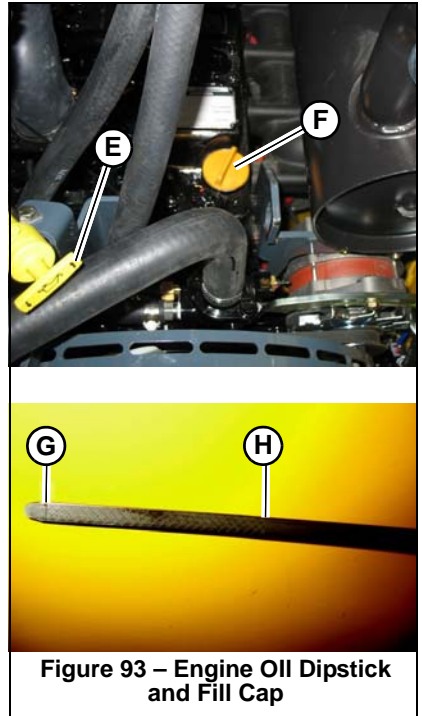

Figure 93 – Engine Oil Dipstick and Fill Cap
5. Twist engine oil dipstick (E, Figure 93) counterclockwise to unlatch it. Remove the dipstick from the engine.
7. Remove the dipstick again. The oil level should be within the “Add” (G) and “Full” (H) markings.
- a. Clean the area around the oil fill cap (F) with a clean cloth.
- b. Remove fill cap (F).
- d. Replace and tighten fill cap (F).
10. Clean the area around oil fill cap (E, Figure 93). Remove oil fill cap (E) and add the recommended type and amount of oil. See “Fluid Capacities/Lubricants” on page 183. Replace and tighten oil fill cap (E) after the oil is added.
12. Check the oil level. Add oil if necessary until the oil level is at the “Full” mark (H, Figure 93) on the dipstick.